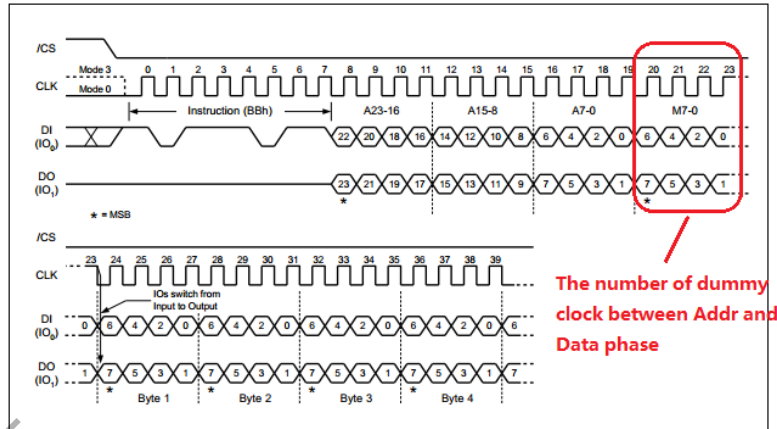

Fig 16-3 Fast read dual I/O instruction sequence
- There are 4 dummy cycles in Read Dual I/O mode, as Fig 16-3 shows.